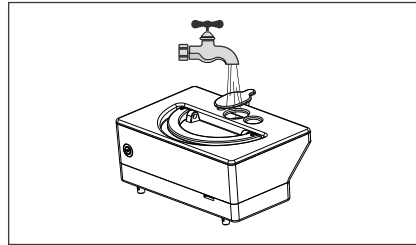

Figure 2
3. Pouring the clean water into the water tank. (Figure 2)